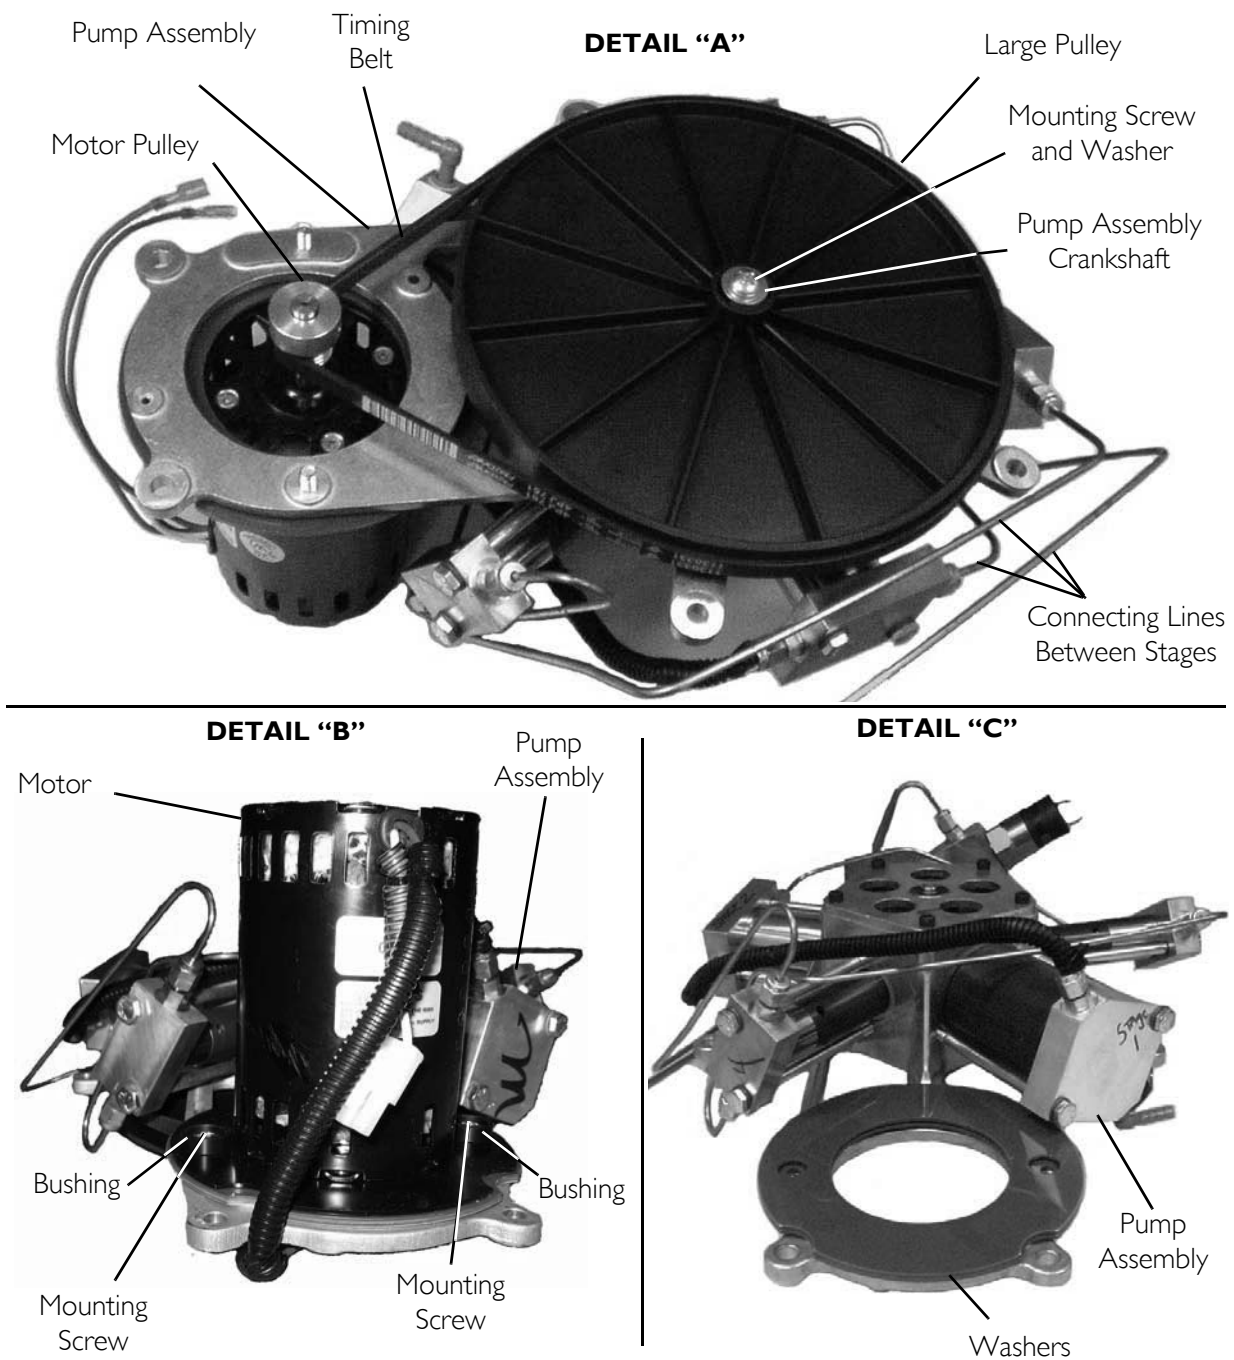

FIGURE 10.6 Compressor Replacement - Assembly of New Motor/Pump Assembly
NOTE: For this procedure, refer to FIGURE 10.6.
NOTE: Pump assembly comes with the connecting lines between stages (FIGURE 10.6).
1. Position the washers on the pump assembly. Refer to Detail "C" in FIGURE 10.6.
2. Position the motor on the pump assembly. Refer to Detail "B" in FIGURE 10.6.
3. Press the large pulley onto the pump assembly crankshaft. Refer to Detail "A" FIGURE 10.6 on page 66.
4. Secure the large pulley to the pump assembly crankshaft with a mounting screw and washer. Torque to 25-30 in-lbs (2.82-3.74 Nm). Refer to Detail "A" in FIGURE 10.6 on page 66.
5. Secure the two washers and motor to the pump assembly with two mounting screws and two bushings. Torque mounting screws to 60-70 in-lbs (6.78-7.9 Nm). Refer to Detail "B" and "C" in FIGURE 10.6
6. Install the timing belt over the large pulley and the small motor pulley. Refer to Detail "A" in FIGURE 10.6.